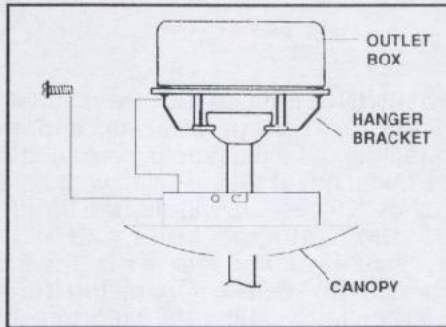

FIG. 16
Step 2. Remove two of the four screws from the Hanging Bracket, loosen the other two screws but do not remove. Slide the Canopy up against the ceiling, engage the Canopy key holes onto the two screws left attached to the Hanging Bracket. Turn the Canopy until the holes are aligned. Install the other two screws previously removed and securely tighten all four screws. (Fig. 16)